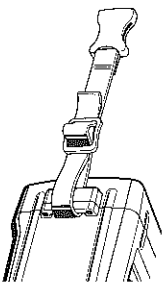

Fig. 14-2
(2) Attach the Side Belt to the instrument as shown in Fig. 14-2. (both sides)